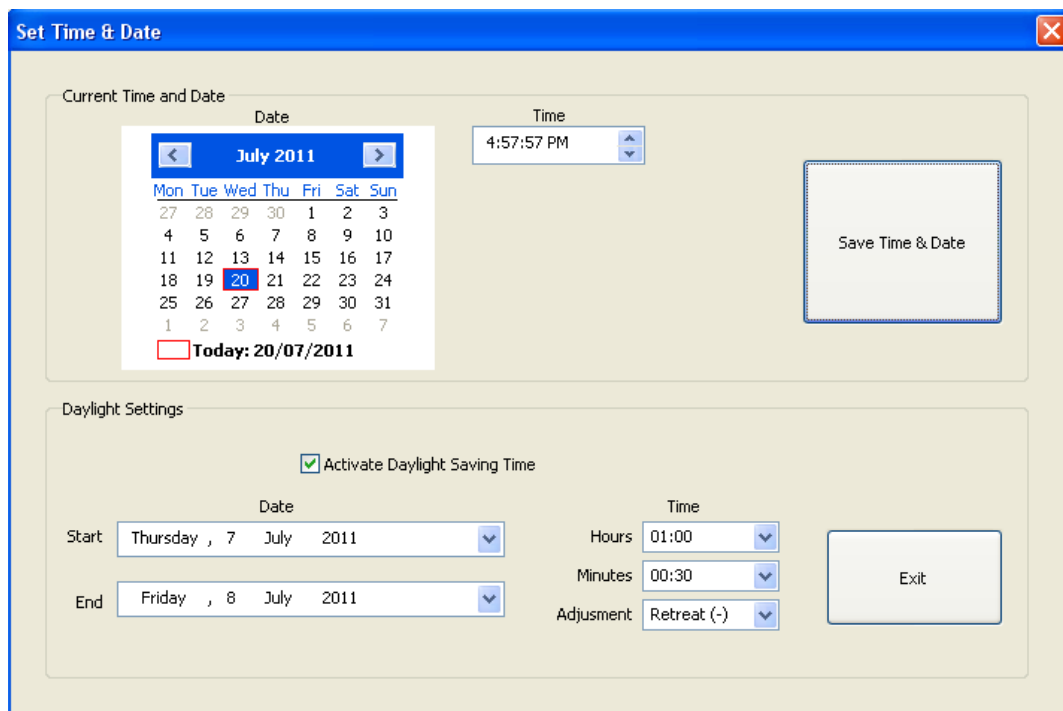

Figure 20: Set Time & Date
- To change the settings, click “Set Time & Date” button. Refer figure 20.